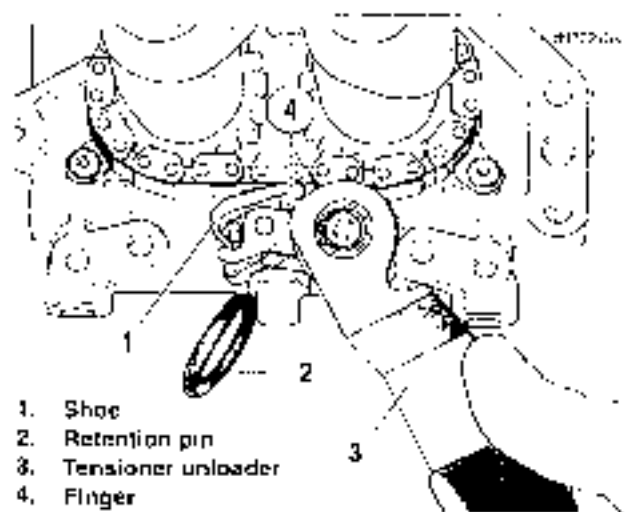

Figure 3-66 Securing Cam Chain Tensioner
- See Figure 3-66. Eliminate secondary cam chain tension. For best results, place cam support plate in a vise using brass jaw inserts to prevent casting damage.
- Place top of CAM CHAIN TENSIONER UNLOADER (3) (Part No. HD-42313) over spring coil of secondary cam chain tensioner. Position finger (4) on top between tensioner and shoe (1).
- Rotate tool in a counterclockwise direction. Insert retention pin (2) through hole in boss on primary cam chain side of cam support plate. Pin engages hooks on tensioner to hold it in the retracted position.